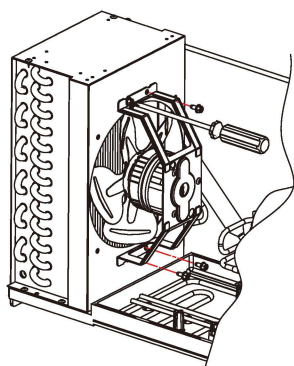

Fig 9-11
2. Loosen the bolts of the condenser fan motor assembly from the condenser. (Fig 9-11)